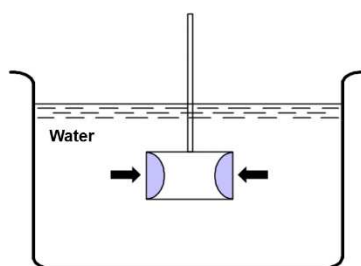

Fig.1
1. Turn the head of water pressure indicator to horizontal position and sink it into the water of a tank. You can observe the difference of dent degree of rubber film of the indicator by its depth (Fig1.)